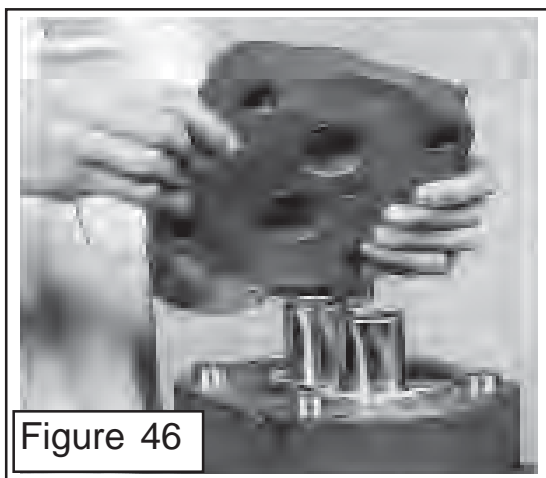

Figure 46
22. Gently slip the thrust plate (figure 10 item 7 & 8) into the gear housing and into place on the shaft end (figure 46). The channel seal from should face the port end cover. The relief groove in the thrust plate should face the outlet side of the pump (see figure 23A & 24). The correct installation of the thrust plate and channel seal are very important, DO NOT install them wrong.
23. Make certain the bushings are OK or have been replaced correctly (see step 5, 6 & 7). Place the port end cover over the gear housing making certain your alignment marks (figure 23A) are aligned and the gear journals of the gear set have a light coat of grease on them. Recheck the gasket seal (figure 10 item 10) is still in place. Tap the port end cover lightly in the center, make certain that the dowel pins are aligned, cover should fit flush on gear housing (figure 46).